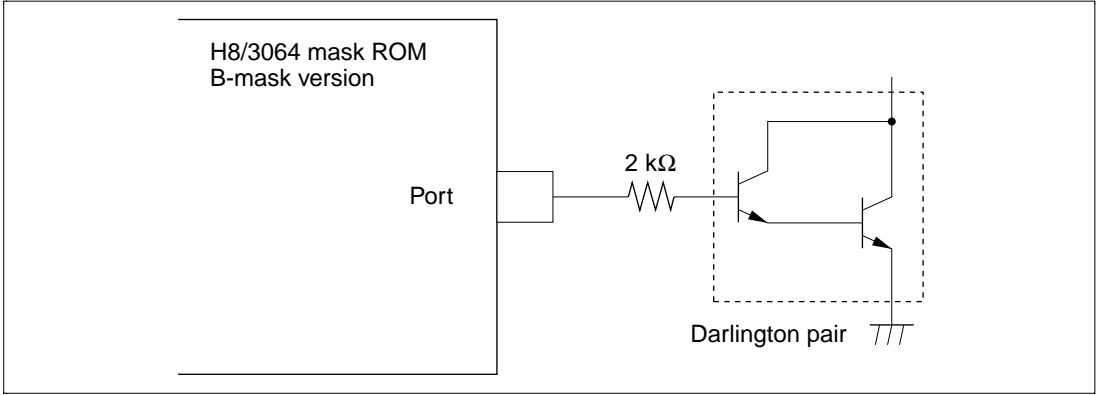

Figure 22.10 Darlington Pair Drive Circuit (Example)
2. When directly driving a darlington pair or LED, always insert a current-limiting resistor in the output line, as shown in figures 22.10 and 22.11.